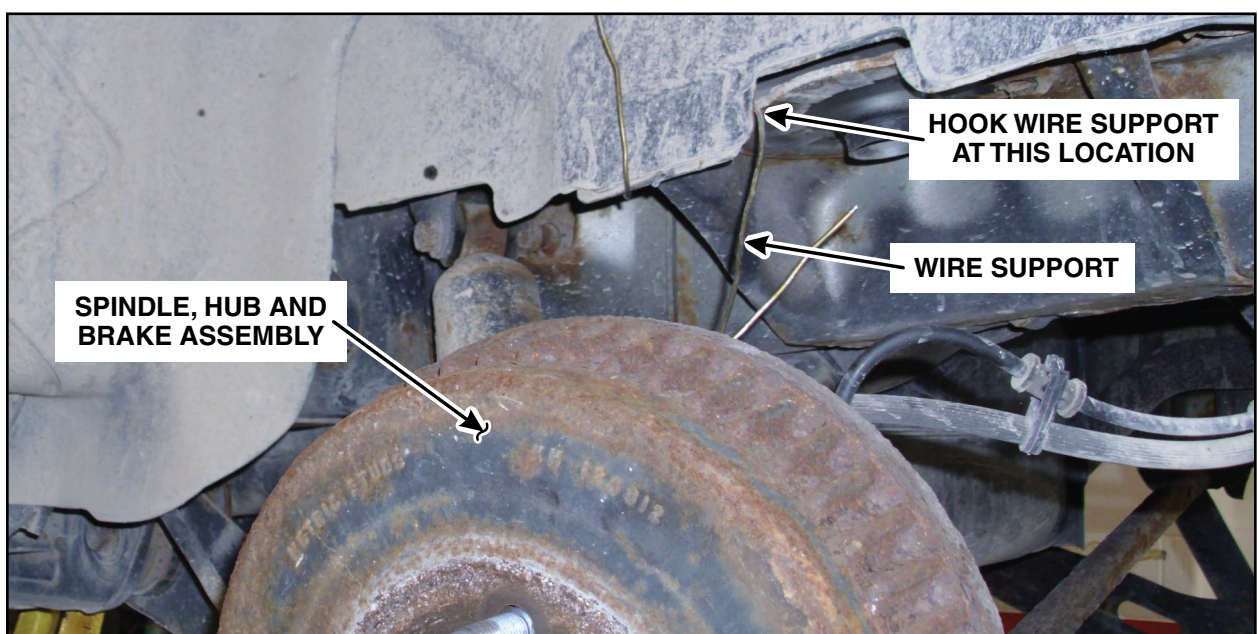

FIGURE 9
Position the spindle, hub and brake assemblies aside. See Figure 9.
14. Position the spindle, hub and brake assemblies in place. See Figure 9.